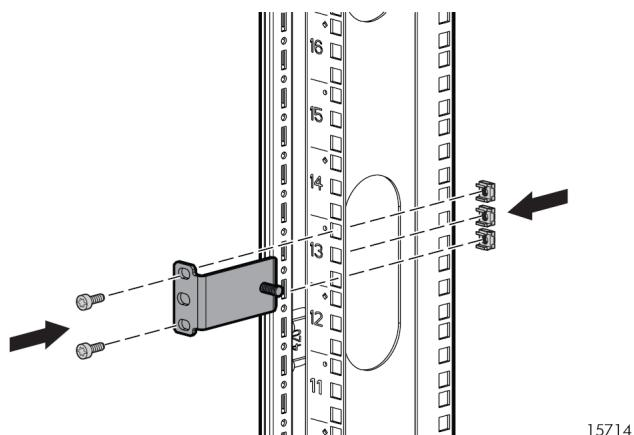

Figure 8 Installing the rear mounting brackets
3. On the rack vertical posts, mark the holes that will be used by the rail flanges (three on each rear vertical post, two on each front vertical post). Then, from the inside of each vertical post, insert an M6 cage-nut for the rack you are using (square or round hole) into each marked hole (Figure 8). Fasten each rear mounting bracket to the marked holes, using two M6 machine screws.